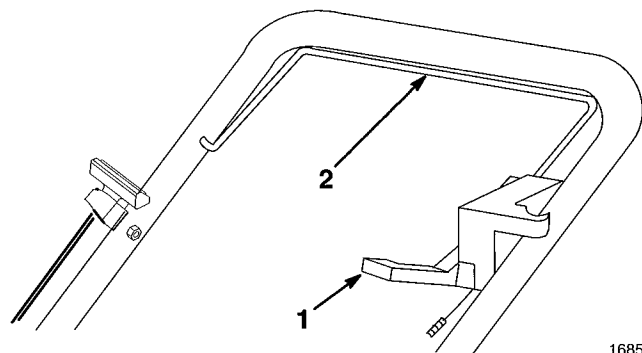

Figure 9
2. SELF-PROPELLED MODELS ONLY—Move traction control lever forward (toward engine) (Fig. 9).
1. Move traction control lever forward (toward engine) and squeeze control bar until it contacts handle (Fig. 9).